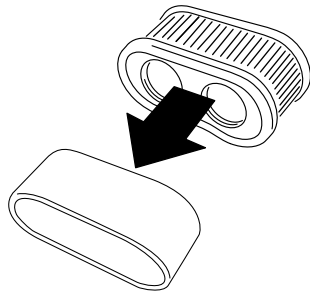

Figure 31
- Remove the foam element from the paper element (Figure 31).